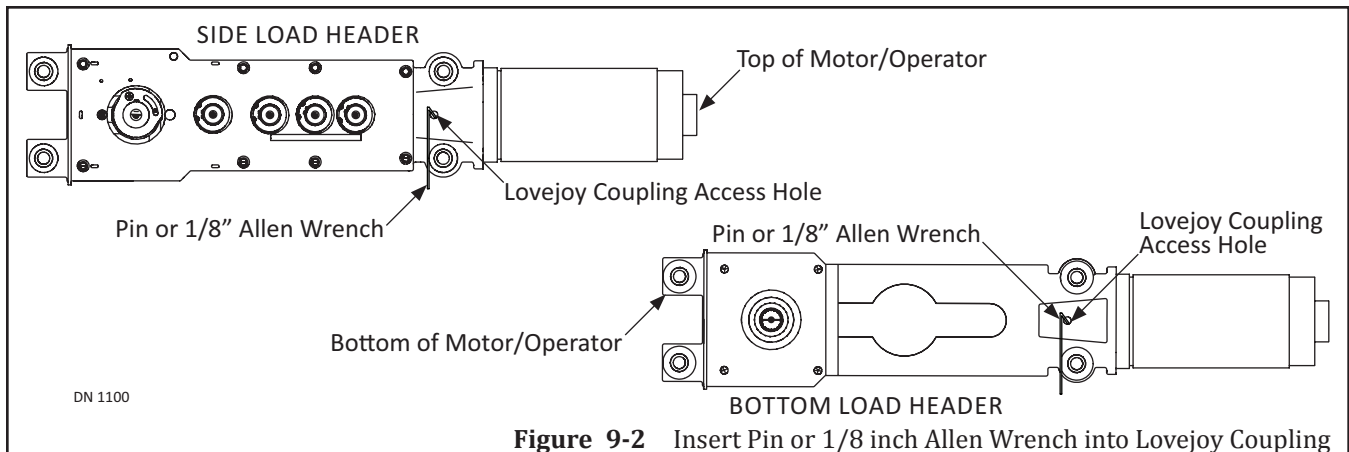

Figure 9-2 Insert Pin or 1/8 inch Allen Wrench into Lovejoy Coupling
2. Obtain (1) Pin or 1/8 inch Allen Wrench. Go underneath the Header. Locate the Operator Spindle. Please see Figure 9-2.